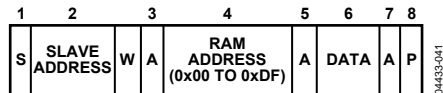

Figure 44. Single Byte Write to the RAM
- To write a single byte of data to the RAM. In this case, the command byte is RAM Address 0x00 to RAM Address 0xDF, and the only data byte is the actual data, as shown in Figure 44.